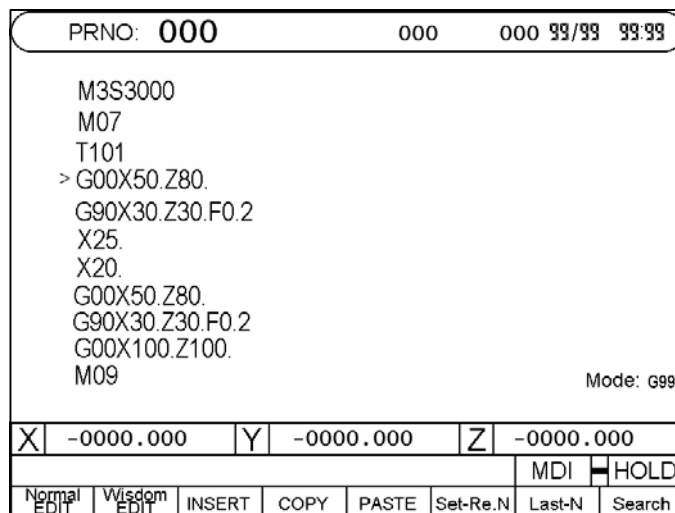

Fig. 2-14
5. After completing the copying, move the cursor to the position to be pasted and then press “Paste” key to paste up the copied program block (as per Fig. 2-14). The copied program block can be pasted to the other program designated by program number and it can also be repeated pasted.